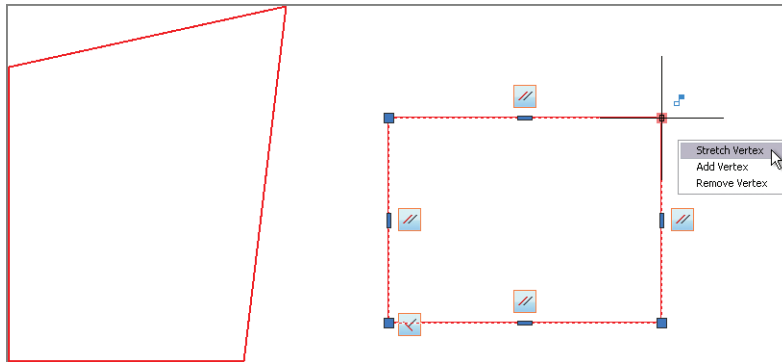

FIGURE 12.2 Stretching constrained geometry limits the types of transformation that can occur.
6. Select both rectangles with a crossing selection window. Hover the cursor over the upper-right grip of the left rectangle, select Stretch Vertex from the grip menu that appears, and stretch it up and to the right so that the rectangle deforms. Hover the cursor over the upper-right grip of the right rectangle, select Stretch Vertex from the grip menu, stretch it up and to the right, and click to set its new location. The rectangle remains a rectangle because of the constraints (see Figure 12.2). Press Esc to deselect.